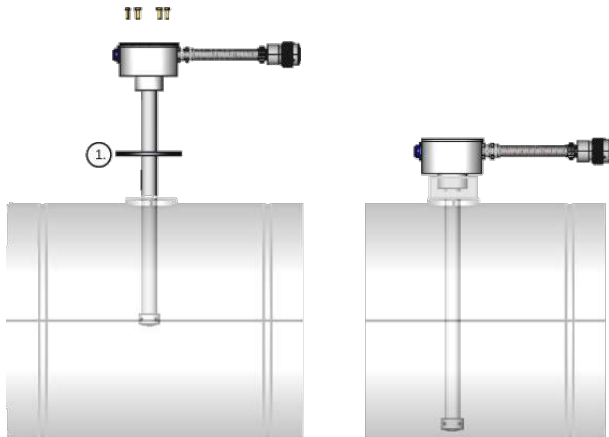

Figure 9: Mounting Arrangement
- Place the Capvel-FUEL sensor and tighten through the bolts. (Ensure that the bolt or screw heads are completely sunk into the sensor.) Refer to Figure 9.
- Make sure there is a clearance of at least 5mm from the bottom surface of the tank, as shown in Figure 9.